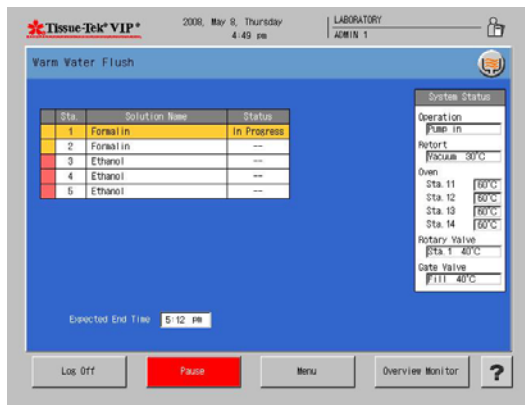

Figure 4-T
2. Touch **Detailed Monitor** to switch the display to the Warm Water Flush Detailed Monitor Screen. The following information is displayed (Figure 4-T).